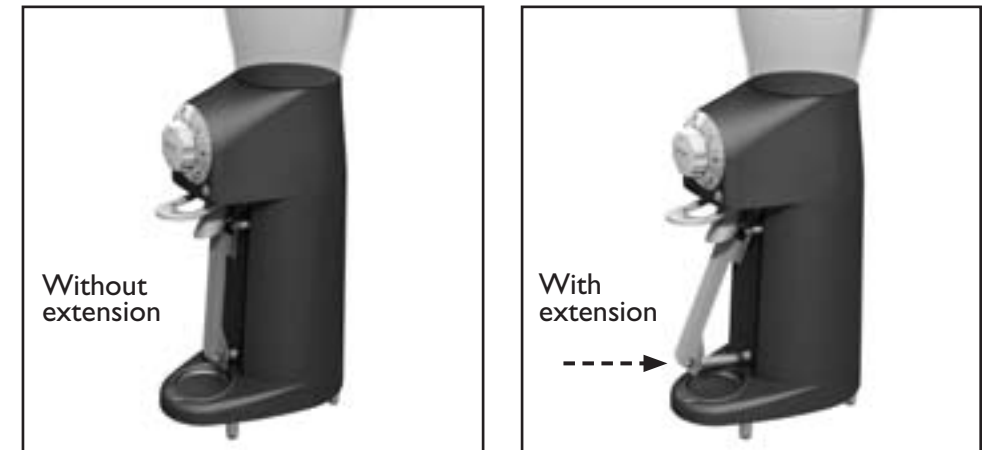

Fig. 7
To put the extension in place, remove the screw (9) on the lower part of the bag shaker as indicated in Figure 7 and put the adapter in place. Reconnect the bag shaker using the same screw.